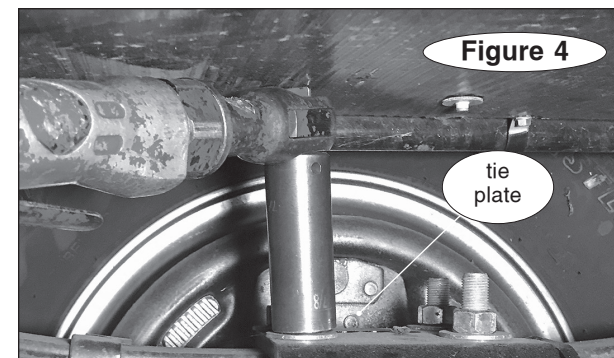

Figure 4
- c. Detach the axles from the springs by removing the axle U-bolts and tie plates (page 2 and Figure 4). Keep the tie plates and hardware for reinstallation.